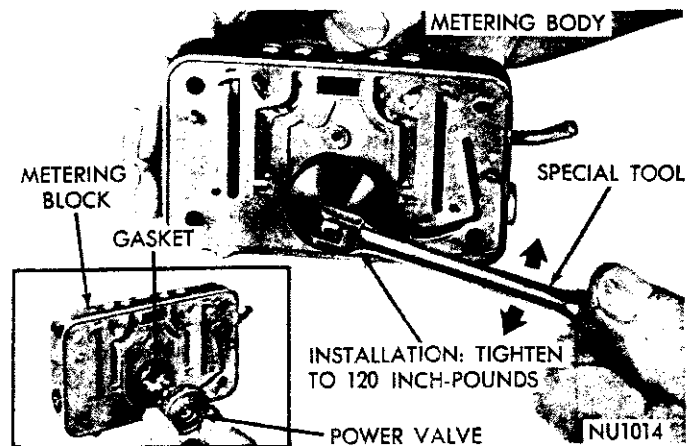

Fig. 15—Removing or Installing Power Valve
(2) Slide a new gasket over power valve and install in body. Using Tool C-3748, tighten to 120 inch pounds (Fig. 15).